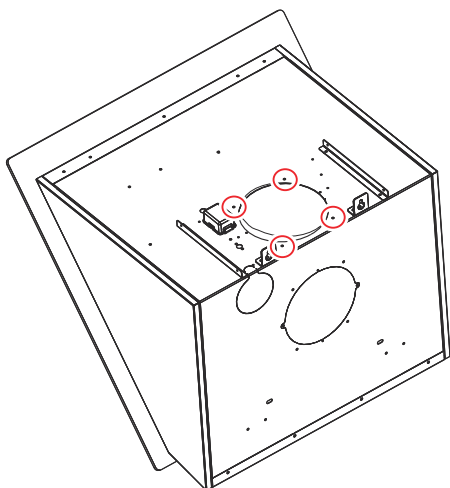

Fig. 7: Lossa motorns skruvar
1. ➔ Lossa motorns skruvar (Fig. 7).